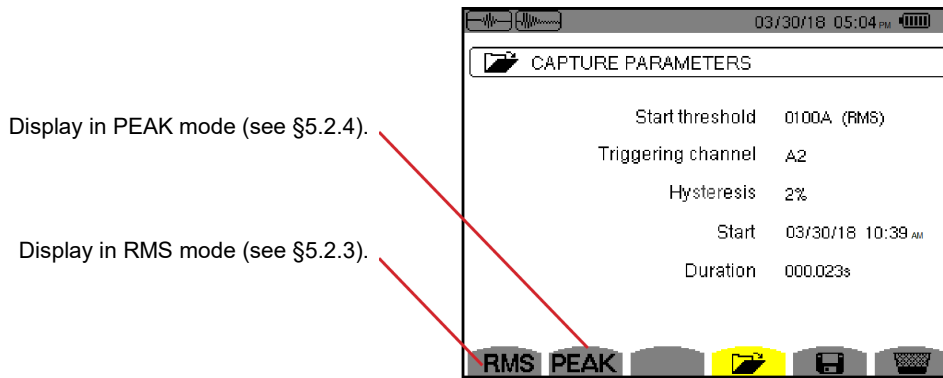

Figure 5-7
- If a capture has been made, then the Capture Parameters screen (Figure 5-7) is displayed.